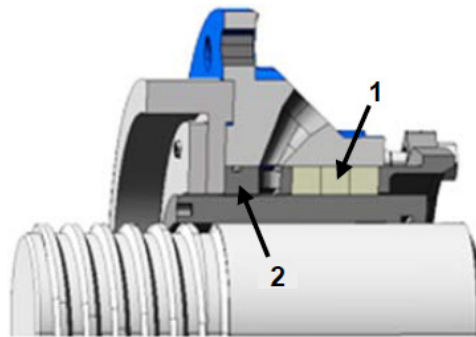

Figure 9-1: Throat Bushing Design
- **Throat Bushing:** (Figure 9-1; **1** is the packing, and **2** is the throat bushing.) Standard for GIW/KSB’s LSA-style pumps (including MDX), this design produces a throttling effect that restricts seal water flow in the pump while maintaining pressure and flow at the packing rings. This design reduces the amount of water that enters the process flow while providing an easy-to-maintain stuffing box assembly.